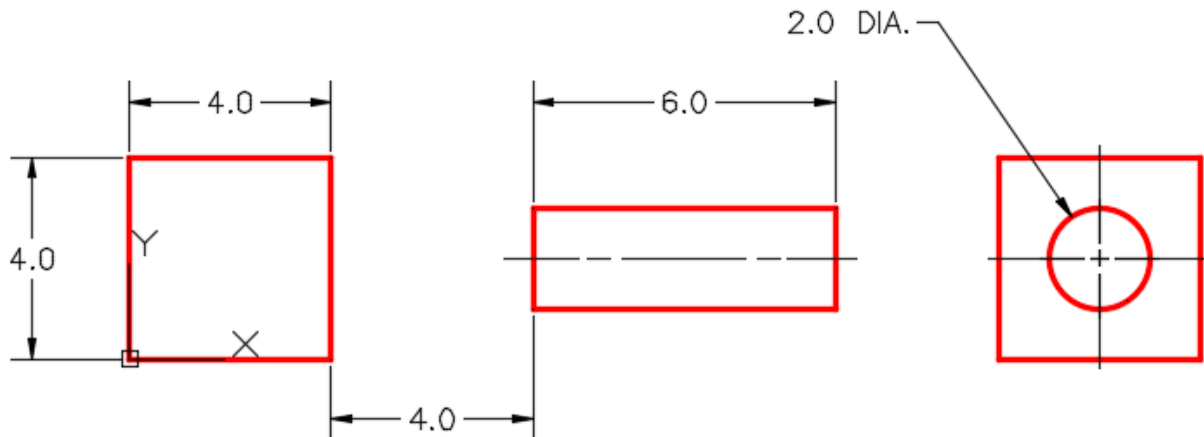

Figure Step 3A
- Step 3** On layer: Solid 3, draw the two solid models using the multiview drawing as a reference. Start the bottom left corner of the cube at 0,0,0. (Figure Step 3A and 3B)